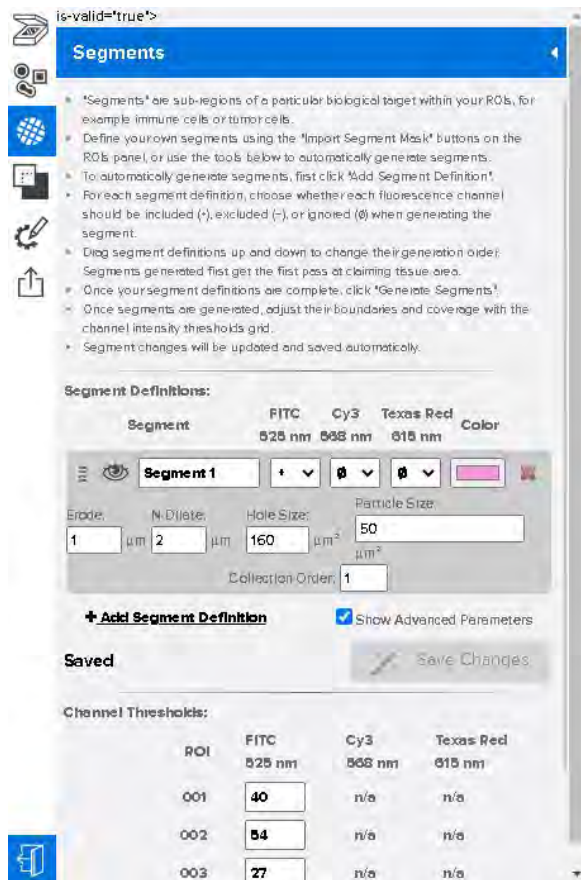

Figure 36: Scan Workspace segmentation workspace
1. Open the **Segments Panel** (see Figure 36), if it is not open already.